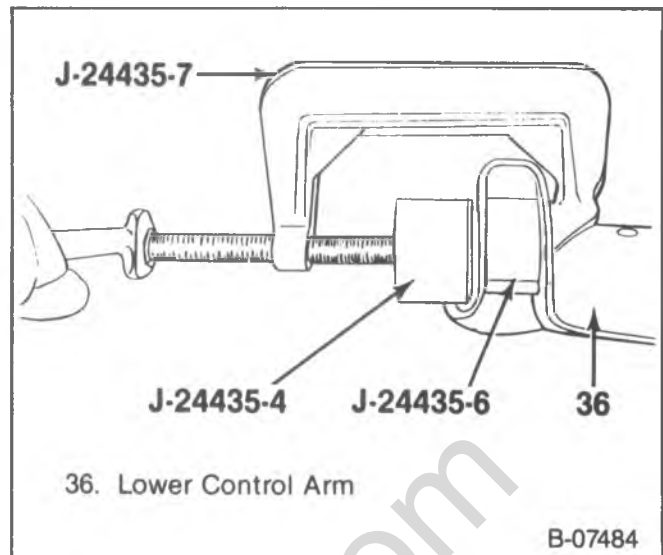

Figure 23—Installing the Lower Control Arm Bushings (R10/1500, G10/1500 and G20/2500 Models)
1. Bushings (46) and the pivot shaft (50).
- Use J-24435-4, J-24435-6, and J-24435-7 (figure 23).
1. New bushing (46) using J-24435-6, J-24435-4, and J-24435-7 (figure 23).
3. Pivot shaft (50) into installed bushing.
4. Remaining bushing (46) into the lower control arm.